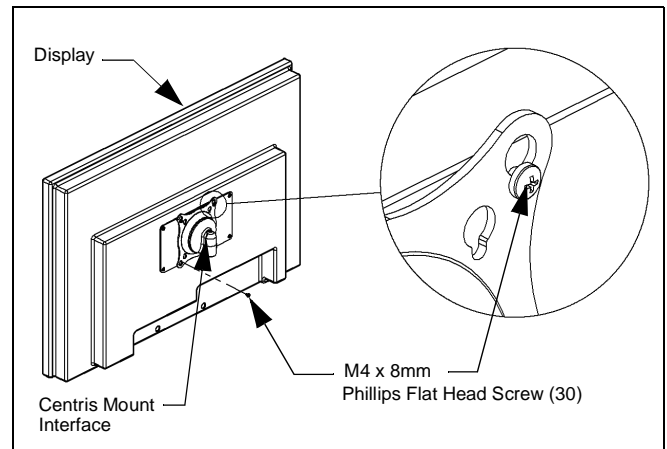

Figure 5: Tighten Upper Mounting Screws
5. Install one M4 x 8mm Phillips Pan head Screw (30) into one of the lower mounting holes in interface bracket (10) and tighten three screws (see Figure 5).